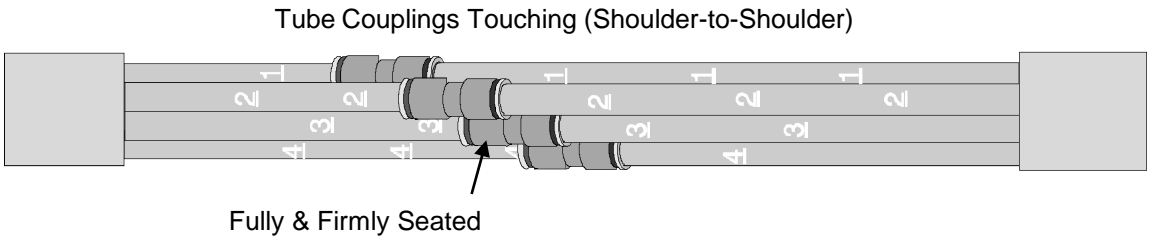
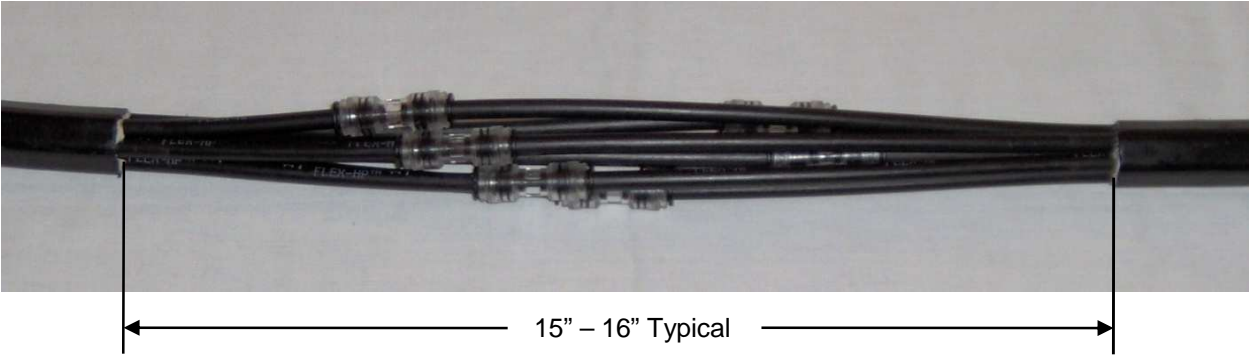
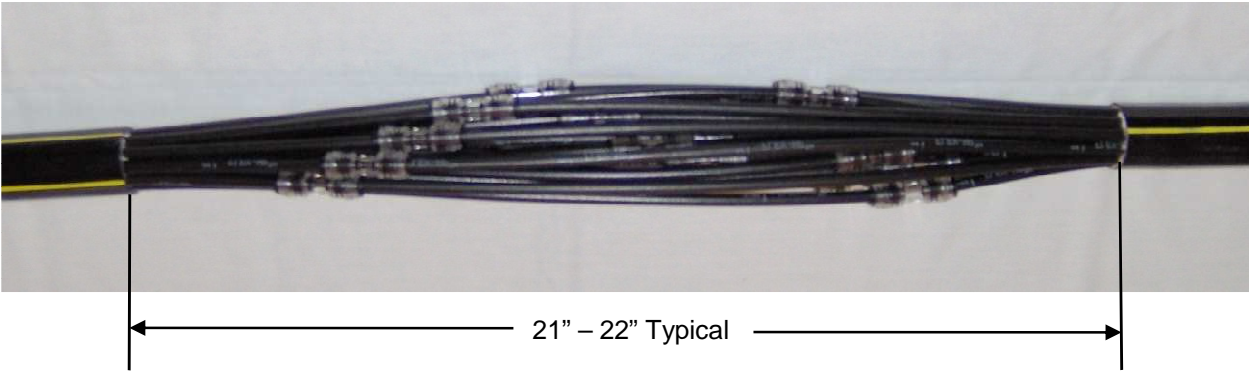

Figure 22
Figure 23
Figure 24
13.11 Connect tube cable ends together by first coupling tube with highest number to its mate. Continue coupling tubes in descending numerical sequence. Be sure each tube is pushed all the way into its coupling and fully and firmly seated. **See Fig. 22. (See Fig. 23 and Fig. 24 for examples.)**